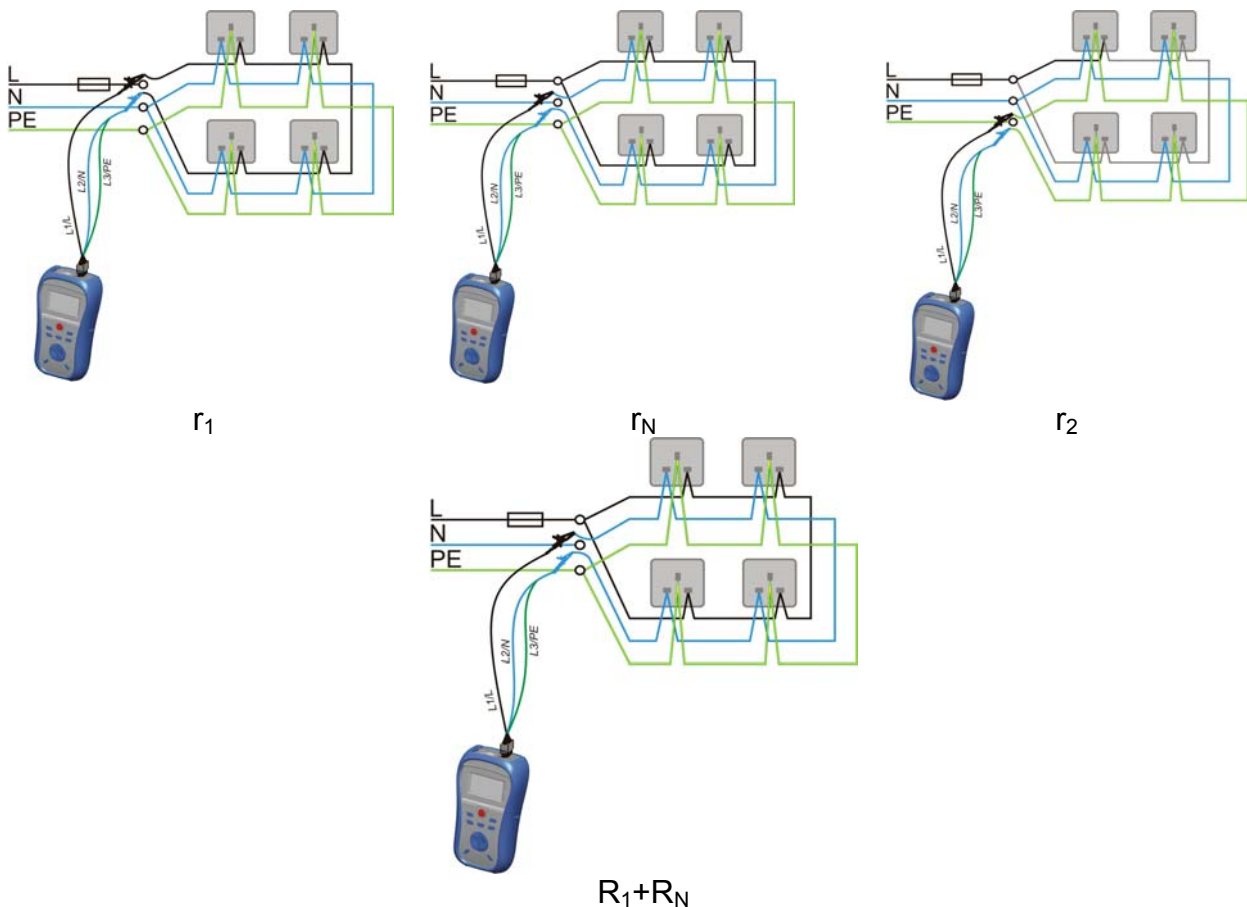

Figure 5.9: Connections for testing the r_1 , r_N , r_2 and R_1+R_N sections of the wiring in ring circuits
- ❑ **Connect** the test leads to the appropriate PE wiring (see figures 5.9 and 5.10).